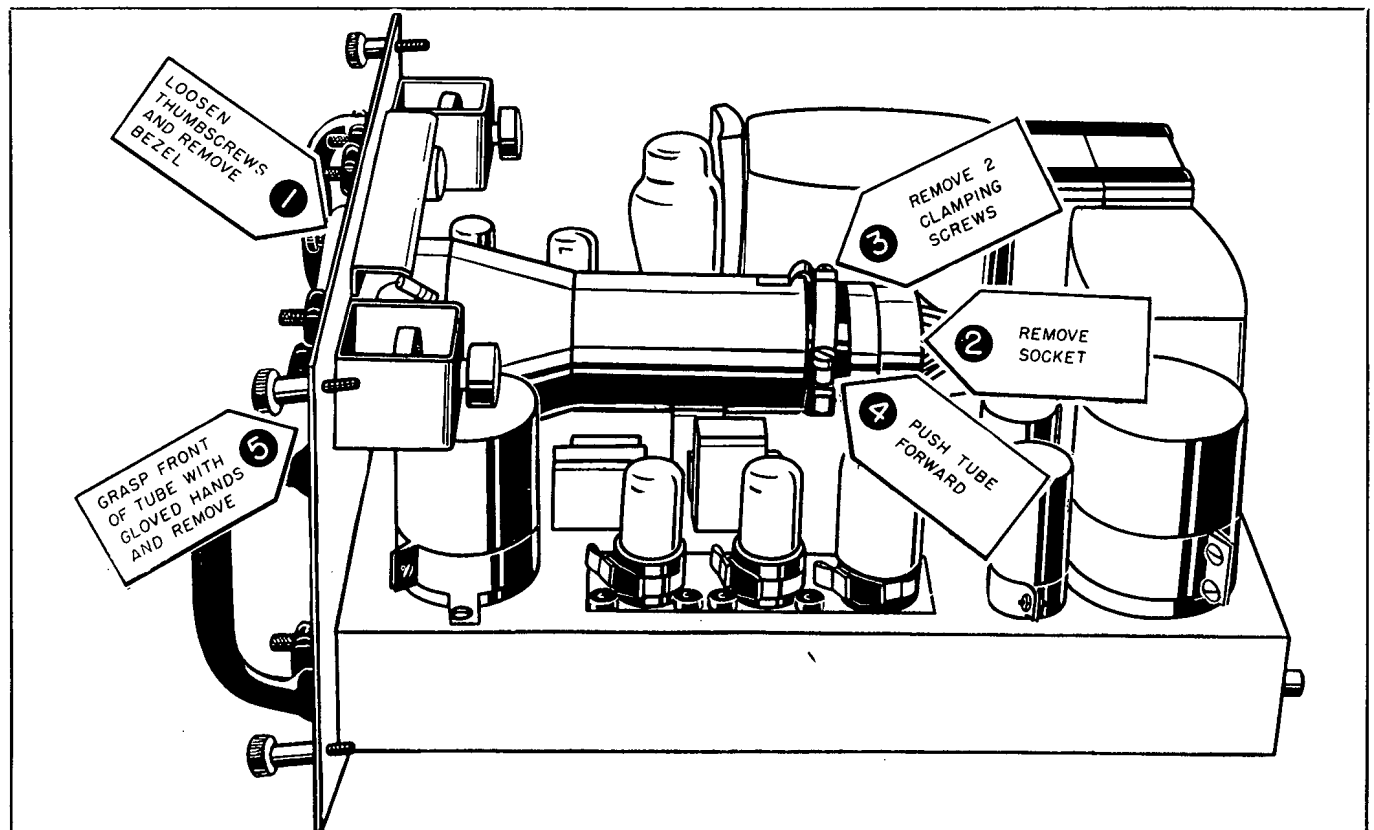

Figure 7-33. Removal of Cathode Ray Tube in Monitor Scope
(1) As a preliminary step, the Monitor Scope must be pulled out from the Transceiver case until the locks engage. Then the thumbscrews that hold the bezel should be removed as directed in step 1 of Fig. 7-33. Carefully remove the tube socket as directed in step 2 of Fig. 7-33. Then remove the two clamping screws as shown in step 3 of Fig. 7-33. The tube is now in position to be pushed forward as directed in step 4. Grasp the front end of the tube with gloved hands and pull the tube out as directed in step 5 of Fig. 7-33.
(2) Install the new tube by reversing the above procedure.